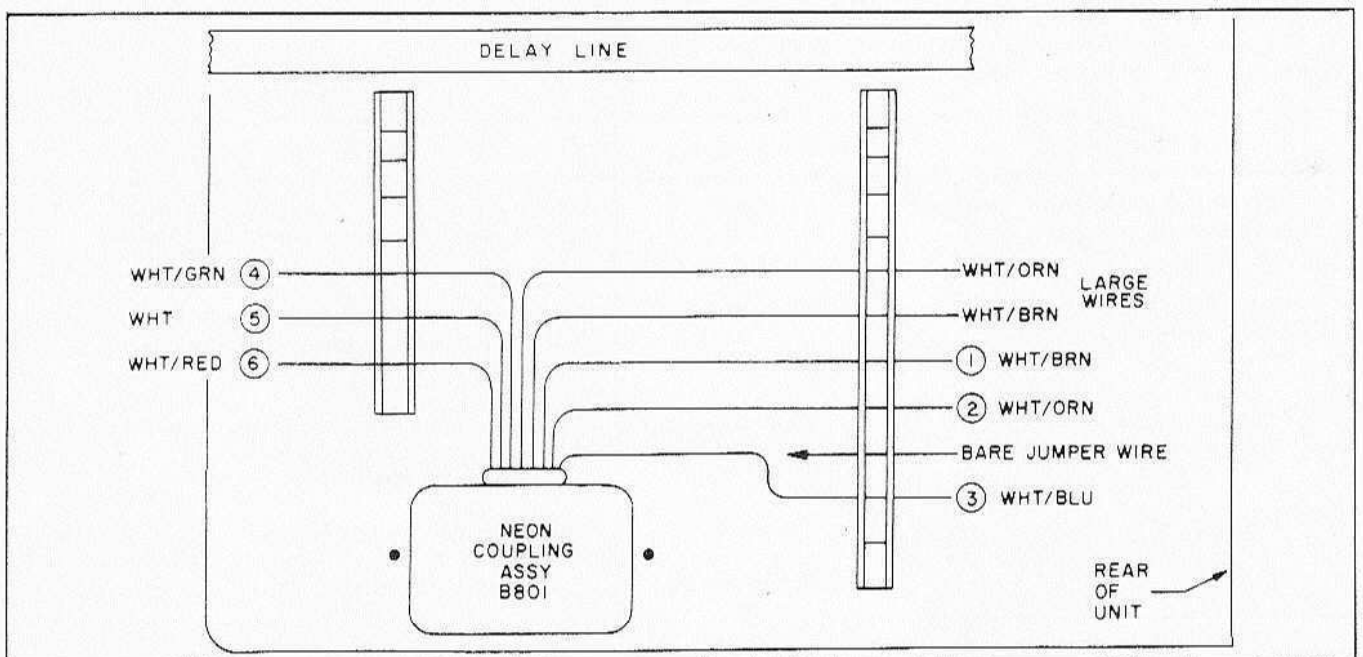

Figure 5-2. CRT Bias Range Tap Adjustment
5-13. CRT RANGE TAP ADJUSTMENT (see figure 5-2). This adjustment shall be performed only when the crt intensity becomes too bright, or too dim and cannot be corrected with the INTENSITY control on the scope front panel. The reason for this condition is due to aging or burning out of the neon tubes in the CRT circuit. The procedure for adjusting the CRT Range tap is as follows:
- f. Using an insulated tool, move bare jumper (see figure 5-2) from tap to tap until the CRT trace is just visible. (No. 1 tap will cause brightest trace.)